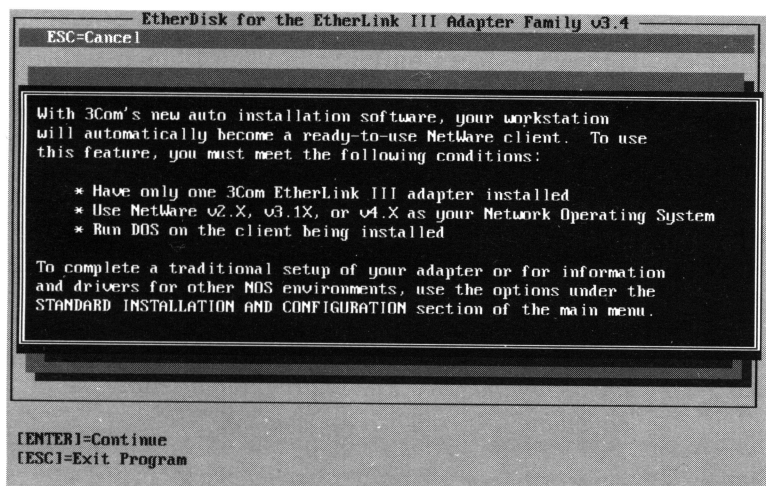

Figure 7-1. Auto Installation Screen
4. **When an auto installation screen similar to that shown in Figure 7-1 appears, press:**